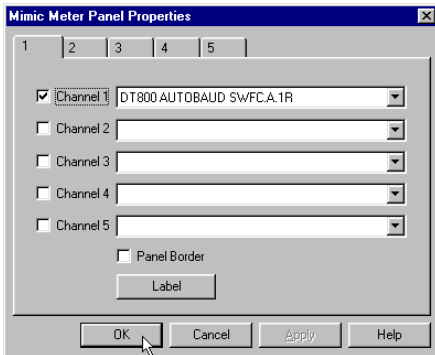

FIGURE 50 Assigning a channel to a meter's needle
- ii. Tick **Panel Border** (Figure 50).
- iii. Click the **Label** button (Figure 50).